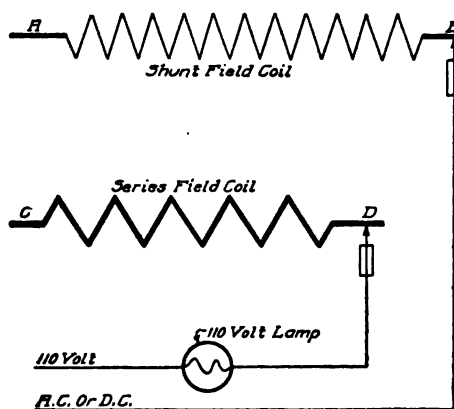

Fig. 271. Diagram for Testing Short-Circuits between Windings
**Short-Circuits between Windings.** To test for short-circuits between windings not normally connected, as for example the shunt and series winding of a field coil, place one test point on the terminal of one winding and the other test point on the terminal of the other field winding, as shown in Fig. 271.